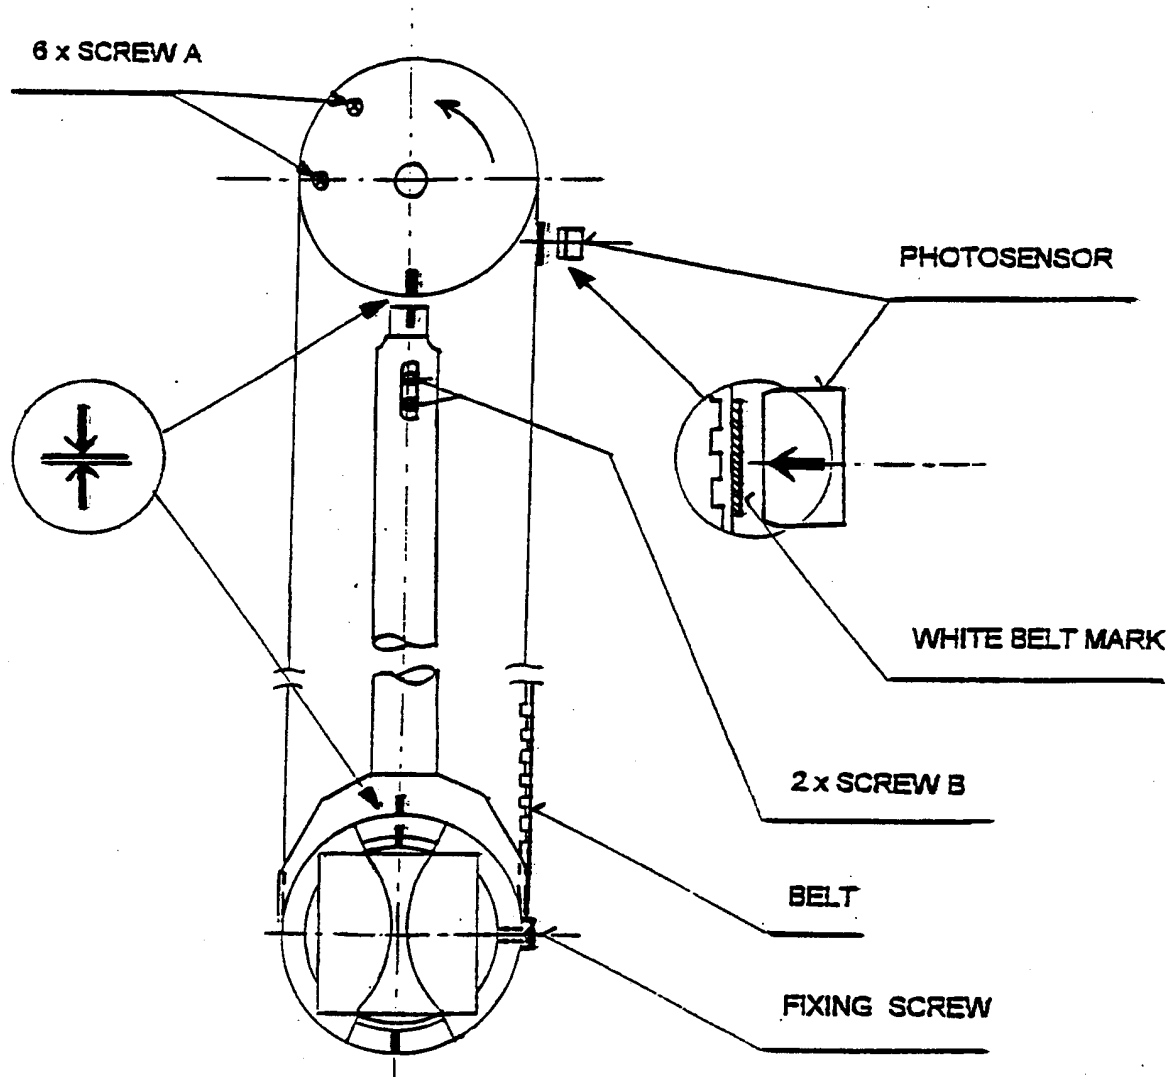

Fig. 4 KLY-4S Belt Adjustment
- Loosen three screws which fix the upper black cover of the motor and remove it carefully by pulling it up. Then loosen a little bit (do not remove it) two screws B, see Fig. 4., but before loosening these screws check the belt strain to set it later in the same level. After loosening these screws, the strain of the tooth belt eases and the specimen shell can be removed from its bearing.
- If upper tooth wheel should be cleaned, loosen six screws A - Fig. 4, and clean it too.